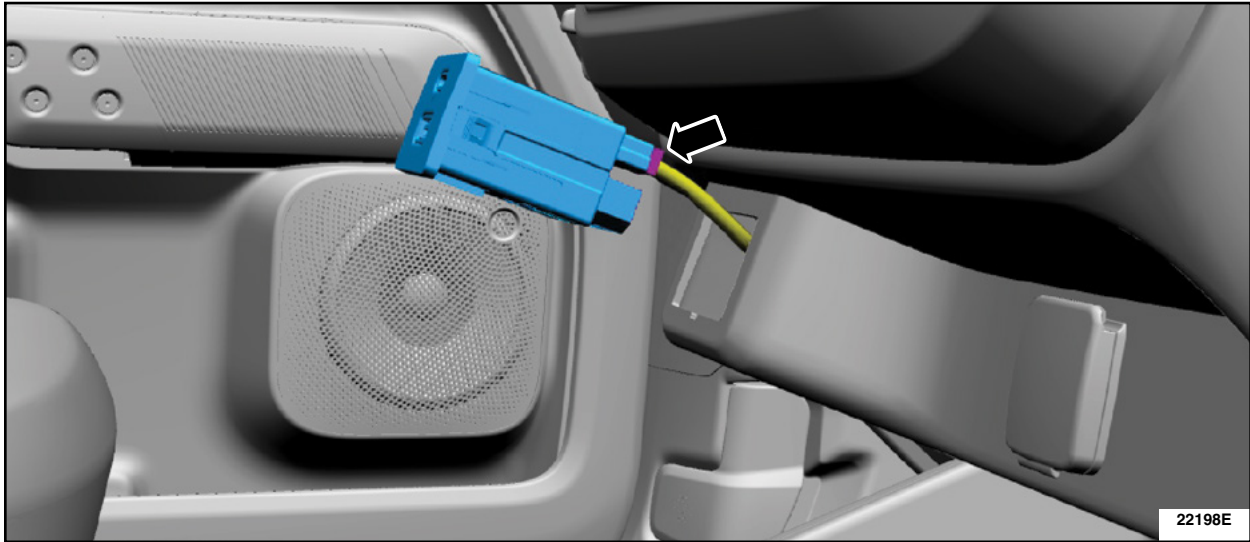

FIGURE 4
4. Disconnect the electrical connector and remove the media hub. See Figure 4.